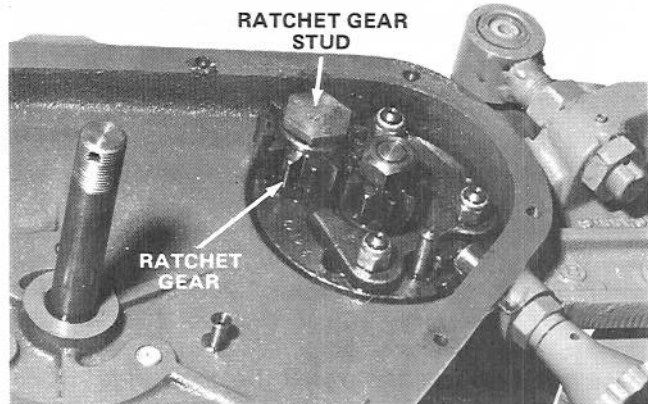

Figure 26
9. To prevent the reel from turning, place a wooden block between reel blades and axle shaft. Using a socket wrench, remove ratchet gear stud securing ratchet gear (Fig. 26). Remove left-hand ratchet gear stud by rotating it clockwise. Remove right-hand ratchet gear stud by rotating it counter-clockwise. Removal of the ratchet gear stud will free ratchet gear (Fig. 26).